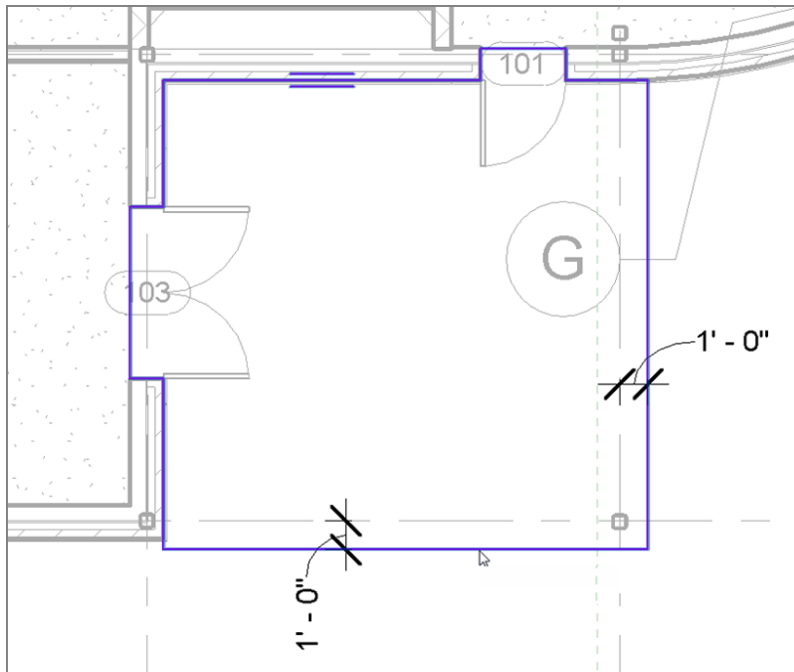

FIGURE 10.80: Sketching the slab perimeter
2. Zoom in on the radial entry of the east wing at grid intersection F-5 (see Figure 10.80).
13. Place the concrete at the points shown in Figure 10.80.